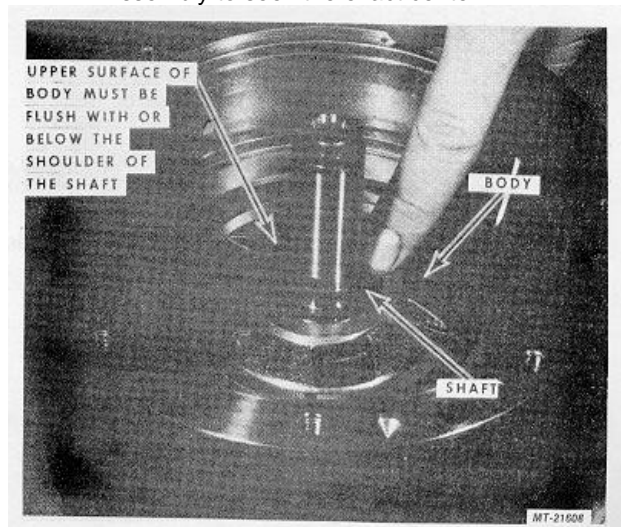

Fig. 78
41. When properly positioned and seated, the upper surface of Body will be flush with or slightly below the surface of the shoulder on Shaft, Fig. 78.